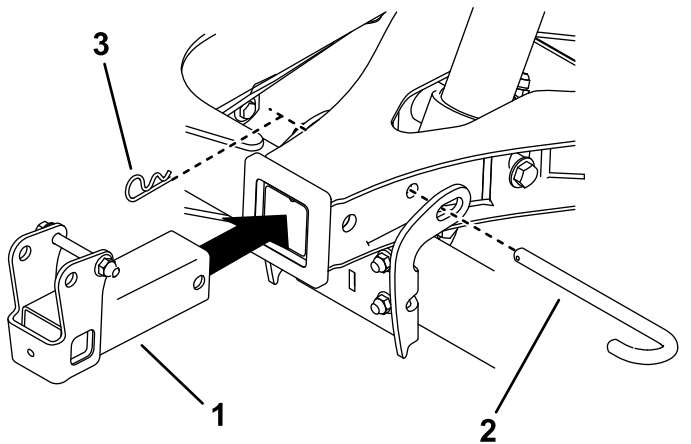

Figure 14
11. Remove the hitch pin and cotter pin from the A-frame and use it to install the hitch receiver (Figure 14). Ensure that the pin locks the A-frame to the cross tube.